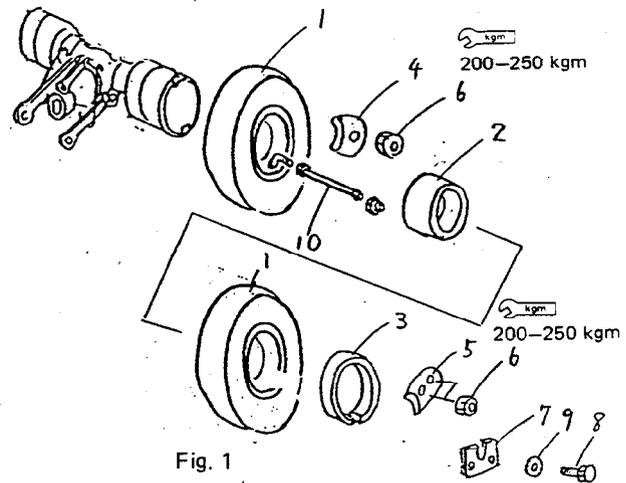

Fig. 1
- 1) Raise the inner rear wheel (this wheel is the same for the front and rear) in the same way as for the front wheel, fit it on the inner hub, and tighten with the hub nuts. (Fig. 1)
- 2) Insert the extension in the valve core, remove the valve core from the valve of the wheel that is installed, then screw in the extension. When doing this, check the tightening of the valve nut also. (Fig. 1)